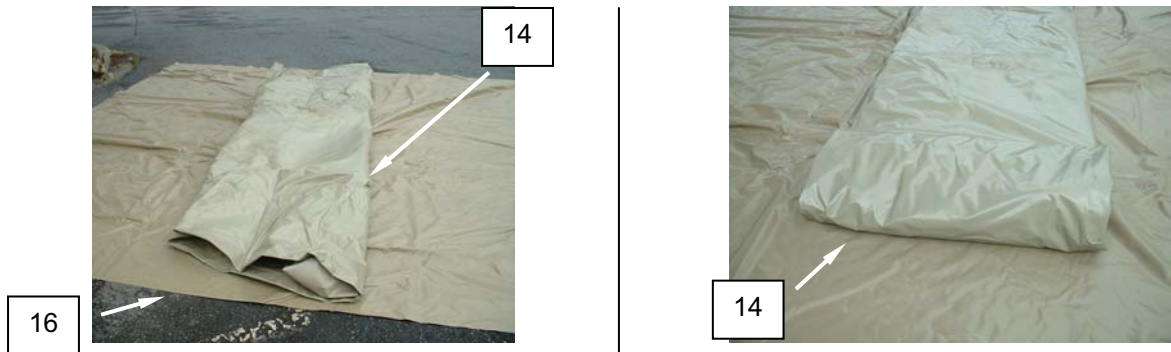

Figure 14. Prepare the 3000 Graywater Tank for Movement.
12. Fold the tank (Figure 14, Item 14) in half again, and recenter on the ground cloth (Figure 14, Item 16). The tank should be approximately 4 feet wide. Start from one end and fold over approximately 18 inches of tank fabric.